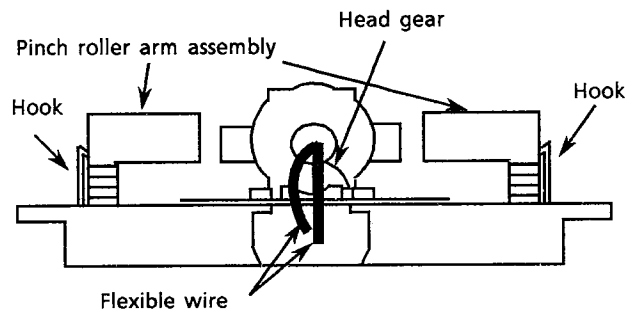

Fig 12
2. Unsolder the flexible wire (Fig 12).
2. Release the hook holding the pinch roller arm to remove the assembly (Fig 12).